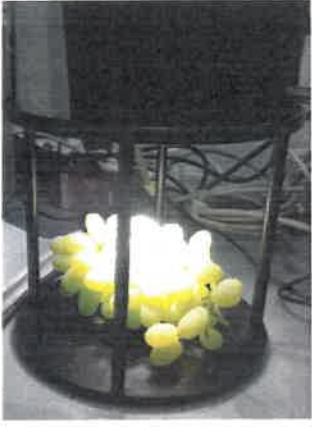

Figure 1: A whole table grape bunch scanned contactless with the MATRIX-F NIR spectrometer.
tungsten NIR light sources of the MATRIX-F Fourier Transform (FT) NIR spectrometer (Figure 1). After each bunch had been scanned a total of 20 grape berries were taken from within the focus area of the light source (8 cm in diameter). All 20 berries were put into a plastic bag, crushed by hand for one minute and then filtered through cheesecloth to obtain free flowing juice.